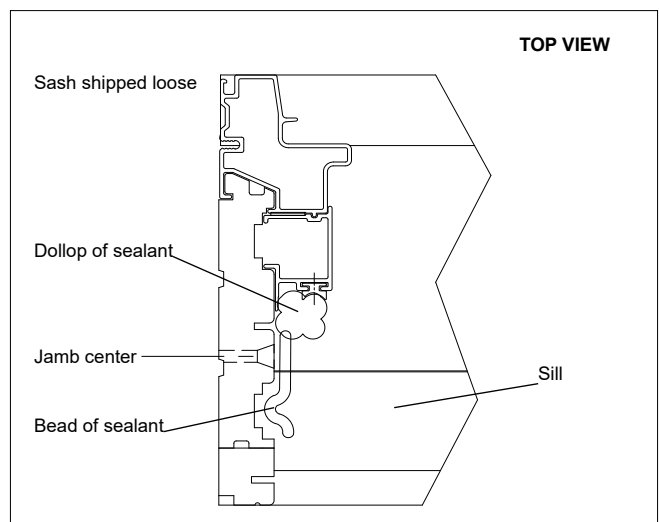

Figure 3
3. For units with sash shipped separately, secure the frame into the opening per the supplied installation instructions. If supplied, use jamb installation screws through the center of jamb. See figure 3.
4. Apply a nickel sized dollop of sealant at the corner of the sill and a bead of sealant along the sill as shown below in figure 3.